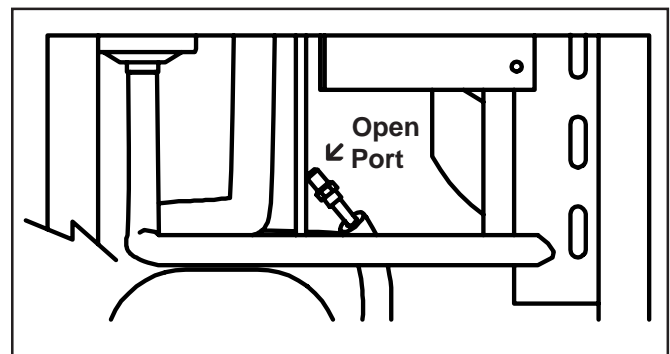

Figure 45. Install Compressor
6. Leaving a port open to prevent pressure build-up, braze the suction line and discharge line to the compressor (Fig.45).